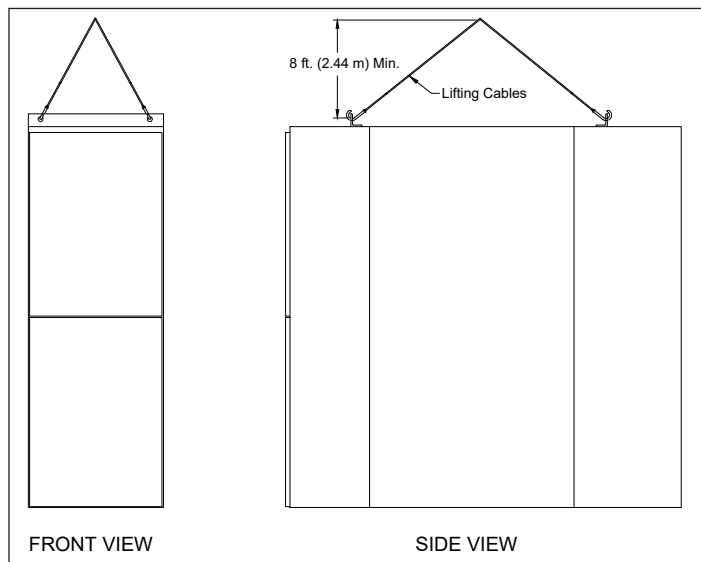

Figure 1. Lifting Angles for Indoor Metal-Clad Switchgear.
- Figure 1: Indoor Metal-Clad Switchgear